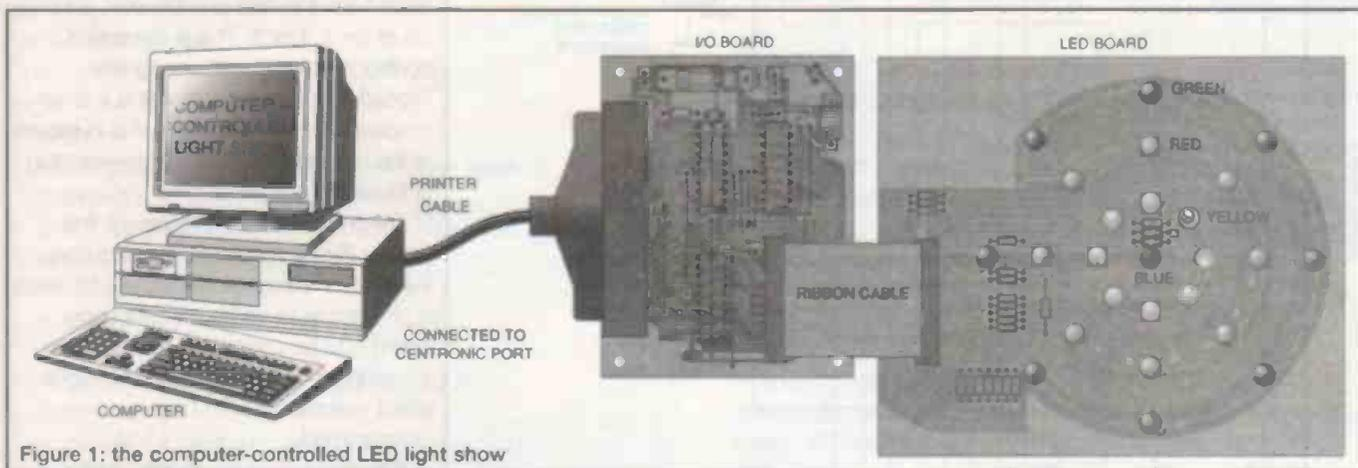

Figure 1: the computer-controlled LED light show
**T**his article describes a computer-controlled LED light show system. There are 24 LEDs (8 red, 8 green and 8 yellow) arranged in three concentric circles on the display board (see Figure 1), with one blue LED in the centre. The board is connected to an I/O control board via a 26-way ribbon cable. The control board is then connected to the computer's Centronics port using a printer cable. The lighting sequence for each LED is programmable. Users can write software to output different lighting sequences and thus achieve various visual effects.